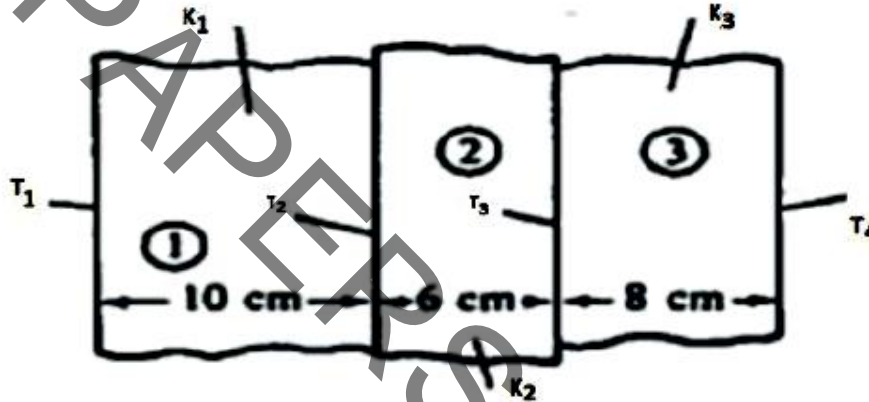

Figure 3
7. For the composite wall shown in the figure 3 below, compute the interface temperatures considering three elements. Take $K_1=5$ W/m-K, $K_2=0.6$ W/m- K, $K_3=20$ W/m- K, $T_1=100^\circ\text{C}$, $T_4=400^\circ\text{C}$. [15]